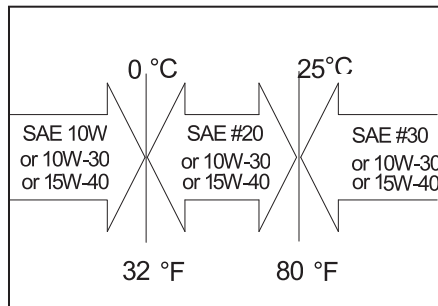

Fig 5-3
- Recommended engine oil (See Fig. 5-3):